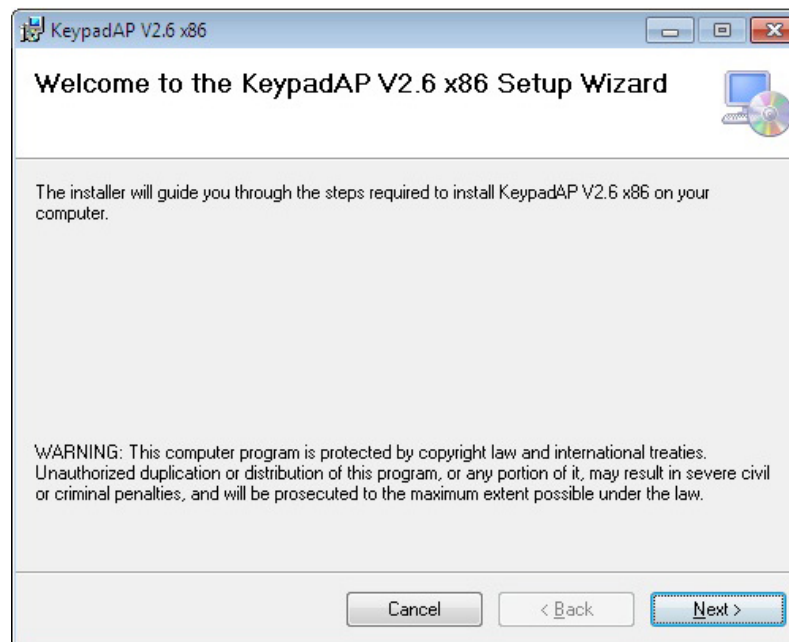

Figure 6-37: Keypad AP Welcome Screen
Step 5: The **Welcome** screen in **Figure 6-37** appears. Click **Next** to continue.